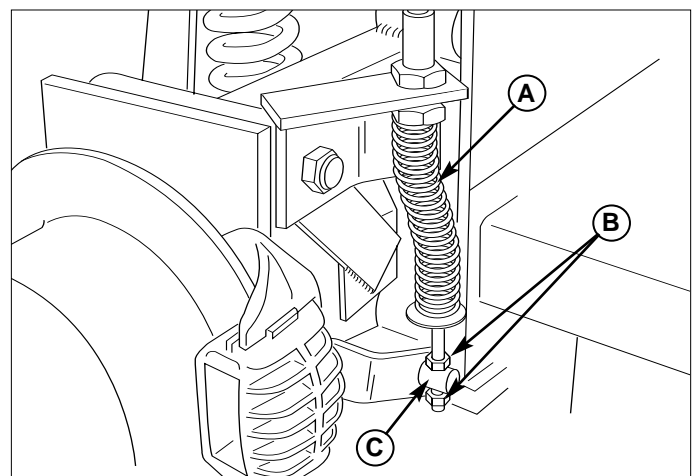

Figure 40. Parking Brake Adjustment
5. Locate the lower brake spring (A, Figure 40), adjustment nuts (B, Figure 40) and adjustment link (C, Figure 40).
6. Release the parking brake and turn the adjustment nuts to compress or release the upper spring. Lock the nuts against the adjustment link (C, Figure 40).